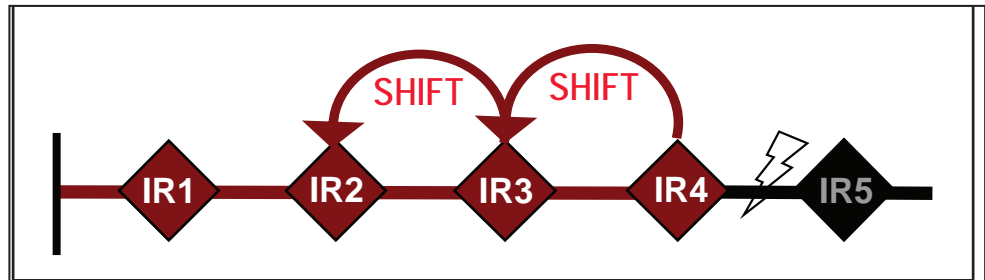

Figure 19. CEC temporary fault; IR3 and IR4 detect fault and send a curve-shift message.
- IntelliRupter fault interrupters IR3 and IR4 detect the fault and send curve-shift messages to their source-side neighbors. See Figure 19.